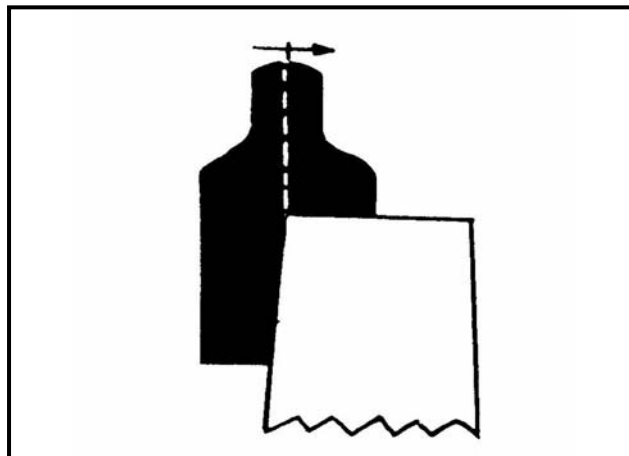
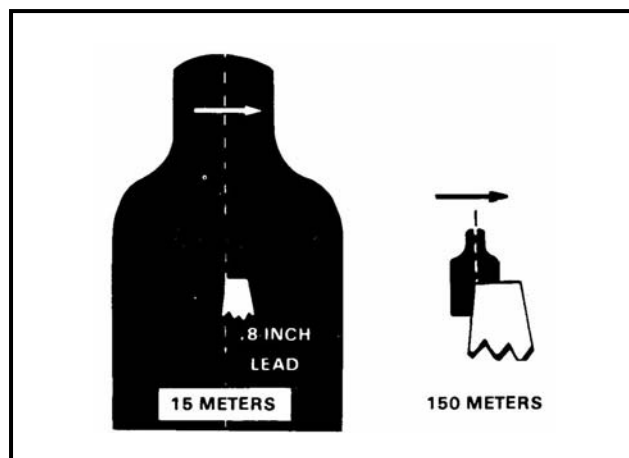

Figure 7-29. Single-lead rule.
Figure 7-30. Lead increasing at greater ranges.
(1) To hit a target moving laterally, the firer places the trailing edge of the front sight post at target center. (The sight-target relationship is shown in Figure 7-29, page 7-32.) The single-lead rule automatically increases the lead as the range to the target increases. (Figure 7-30, page 7-32, shows how this works, with the front sight post covering about 1.6 inches at 15 meters and about 16 inches at 150 meters.) Since the center of the front sight post is the actual aiming point, placing the trailing edge of the front sight post at target center provides a .8-inch lead on a 15-meter target and an 8-inch lead on a target at 150 meters.
(2) This rule provides a dead-center hit on a 15-meter target moving at 7 miles per hour at a 25-degree angle because the target moves .8 inches between the time the rifle is fired and the bullet arrives at the target. A 150-meter target moving at 7 miles per hour at a 25-degree angle moves 8 inches between the time the weapon is fired and the bullet arrives. This rule provides for hits on the majority of high priority combat targets.